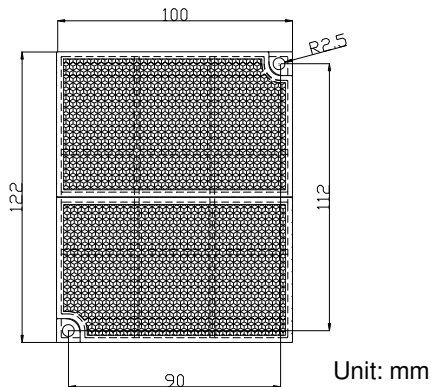
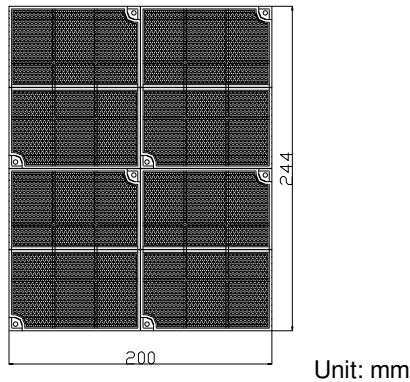

Fig. 11a
Fig. 11b
- 3) **Mounting the Reflector:** The reflector is mounted opposite the detector but in line with it. When the distance between the detector and the reflector is more than 8m (less than or equal to 40m), one reflector is enough. When the distance is more than 40m (less or equal to 100m), four reflectors are needed. Two $\varnothing 6$ plastic expansion bolts are needed to fix a single reflector. Mounting size is shown in Fig.11a. If four reflectors are needed, place them seamlessly as shown in Fig. 11b.